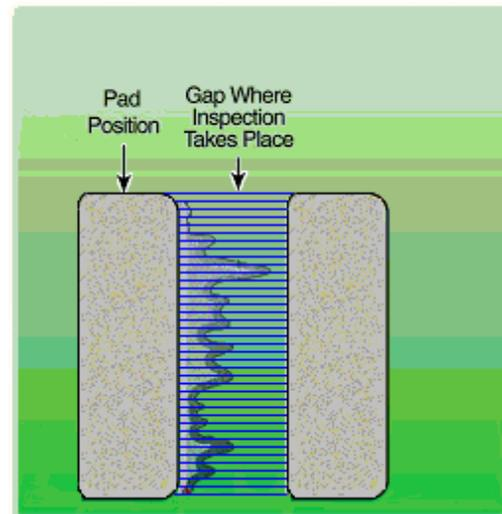

Figure 5
- Maximum Sensitivity (width of 1 mil) - minimal “averaging”, looks at the smallest variation, most stringent. (Figure 5)